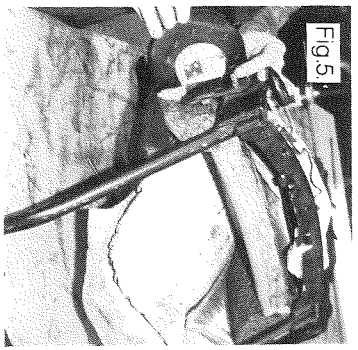
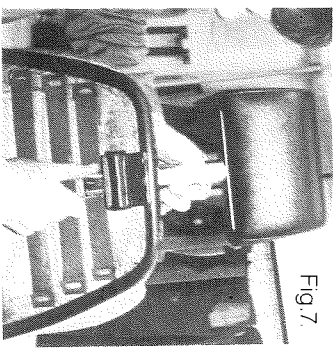
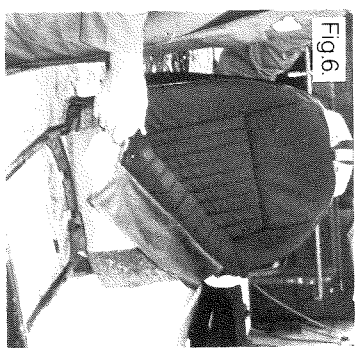

Fig. 5
Fig. 7
Fig. 6
4. Unclip the side panels. At the base of the side skirts are two hardboard fillets. These simply unclip from the seat frame (Fig. 5). The seat cover can then be peeled upwards from the frame (Fig. 6). Please note that the headrests (if fitted) can be withdrawn at this stage. Peeling back the seat cover will reveal a spring at the base of the headrest and this can be compressed to enable the headrest to be withdrawn (Fig. 7).